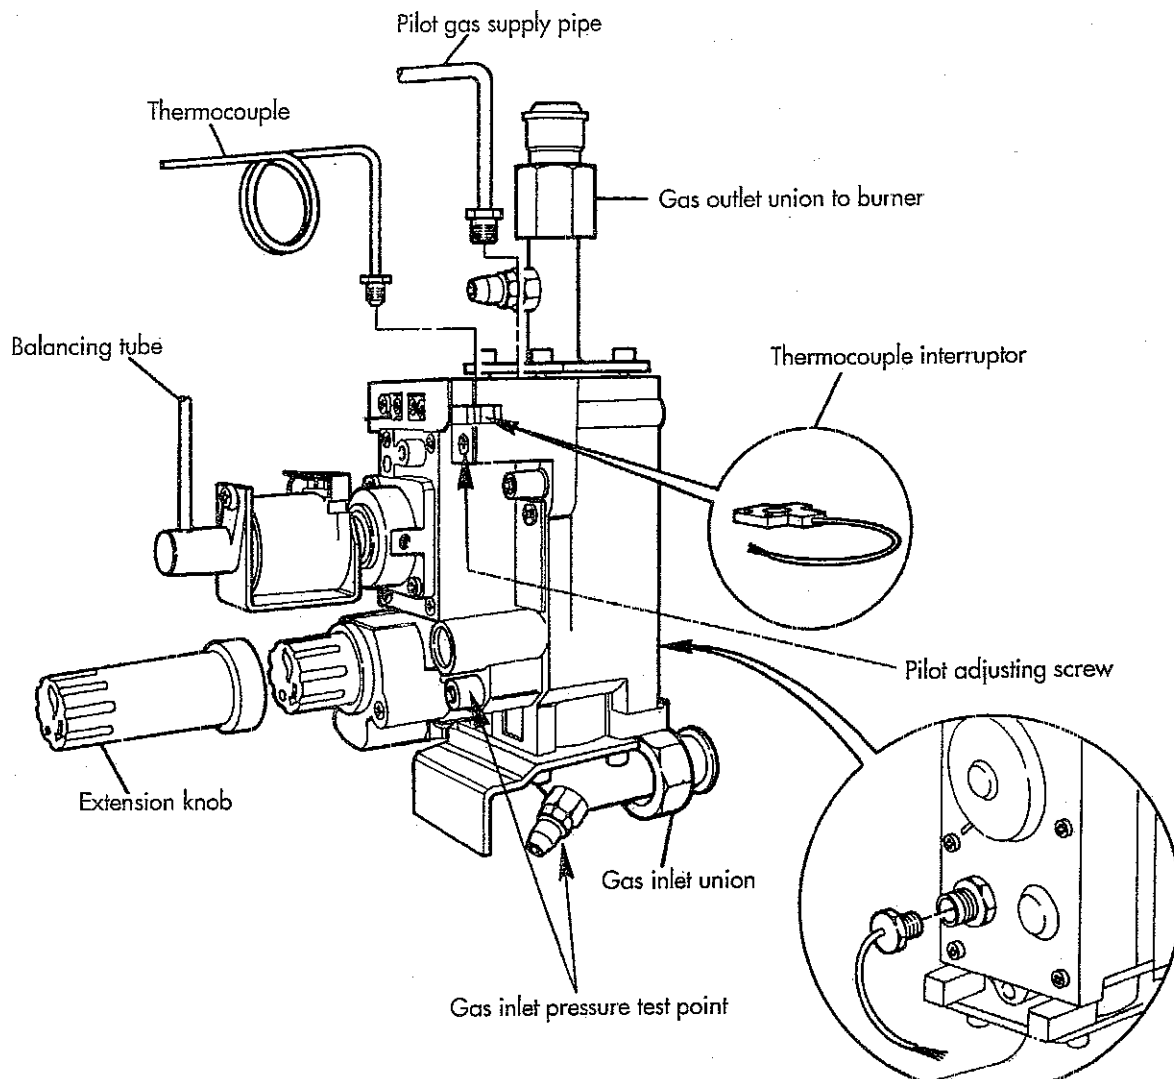

Fig 31
- b) Disconnect the thermocouple from the Honeywell valve (use a 10 mm spanner) (fig. 31).
- c) Unscrew the pilot supply pipe compression nut from the Honeywell valve (fig. 31).
6.0 HONEYWELL GAS VALVE (fig. 31)